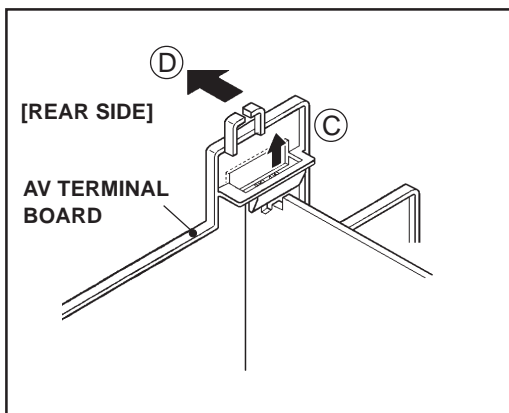

Fig. 1
2. Unhook the claw (marked "C") of the AV Terminal Board from the PW Board by lifting it upward. (See Fig. 1.)
3. Then remove the AV Terminal Board backward (in the arrow direction marked "D"). (See Fig. 1.)